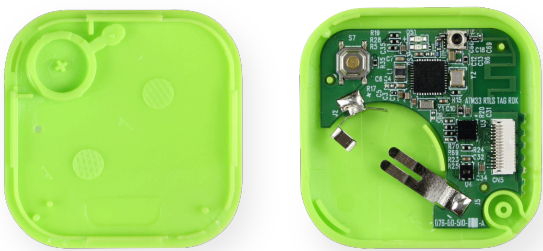

Figure 1 - ATM3325 Tag Reference Design
- Figure 1 - ATM3325 Tag Reference Design